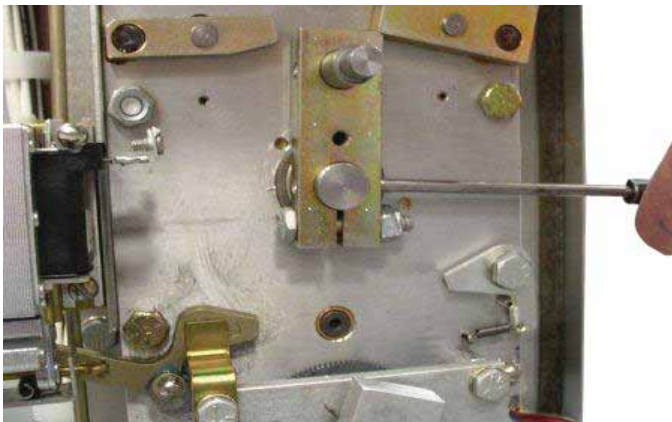

Figure 10.
- c. Using a hammer and 3/16" (5mm) punch, remove and discard the slotted roll pin securing crank lever to the shaft. Refer to Figure 10.